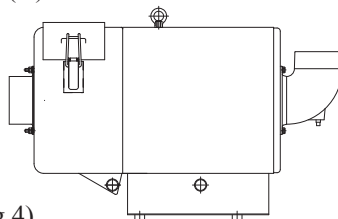

Fig.3
- Remove the plug from the bottom of the Mistresa elbow (see Fig.3).